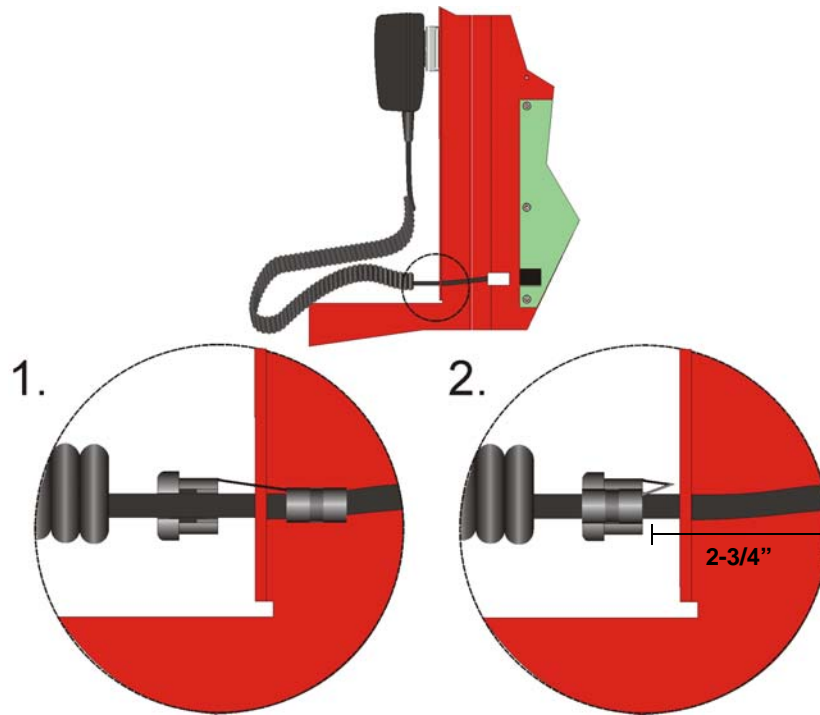

Figure 3-45 Installing Strain Relief Clip
3. Attach strain relief clip to microphone cord. The strain relief clip should have about 2-3/4" of microphone cord through it. See Figure 3-45.